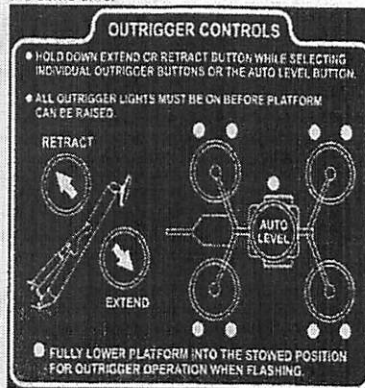

Figure 3-3. Outrigger Controls
- ❑ Verify that the control status indicator LED is lit. If the control status indicator LED is not lit or is flashing, the outrigger buttons will not work. A flashing control status LED indicates that one or more of the booms is raised and needs to be stowed. Refer to Figure 3-1 and Figure 3-3.